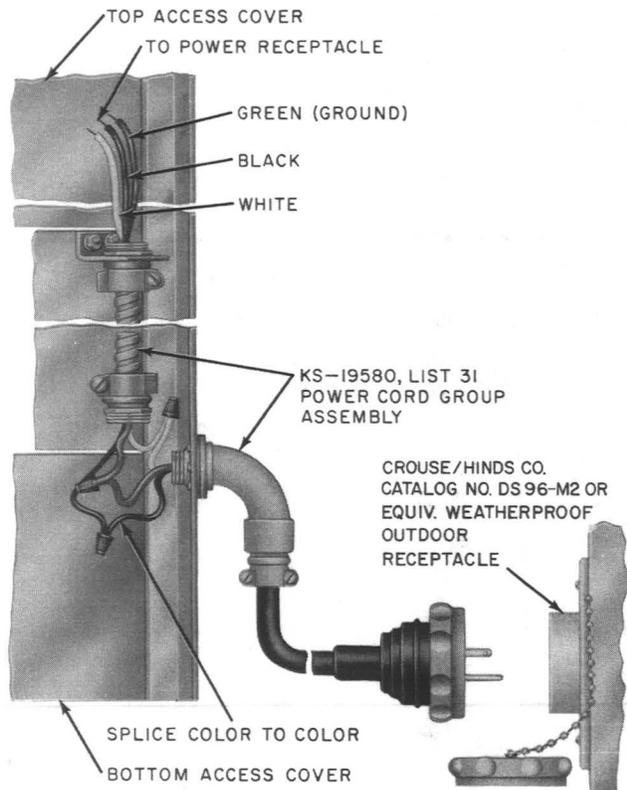

Fig. 16—KS-19580, List 31 Power Cord Group Assembly for Ground Level Entrance
3.09 Refer to paragraph 2.11 for available cords and Fig. 16 and 17 for their usage.